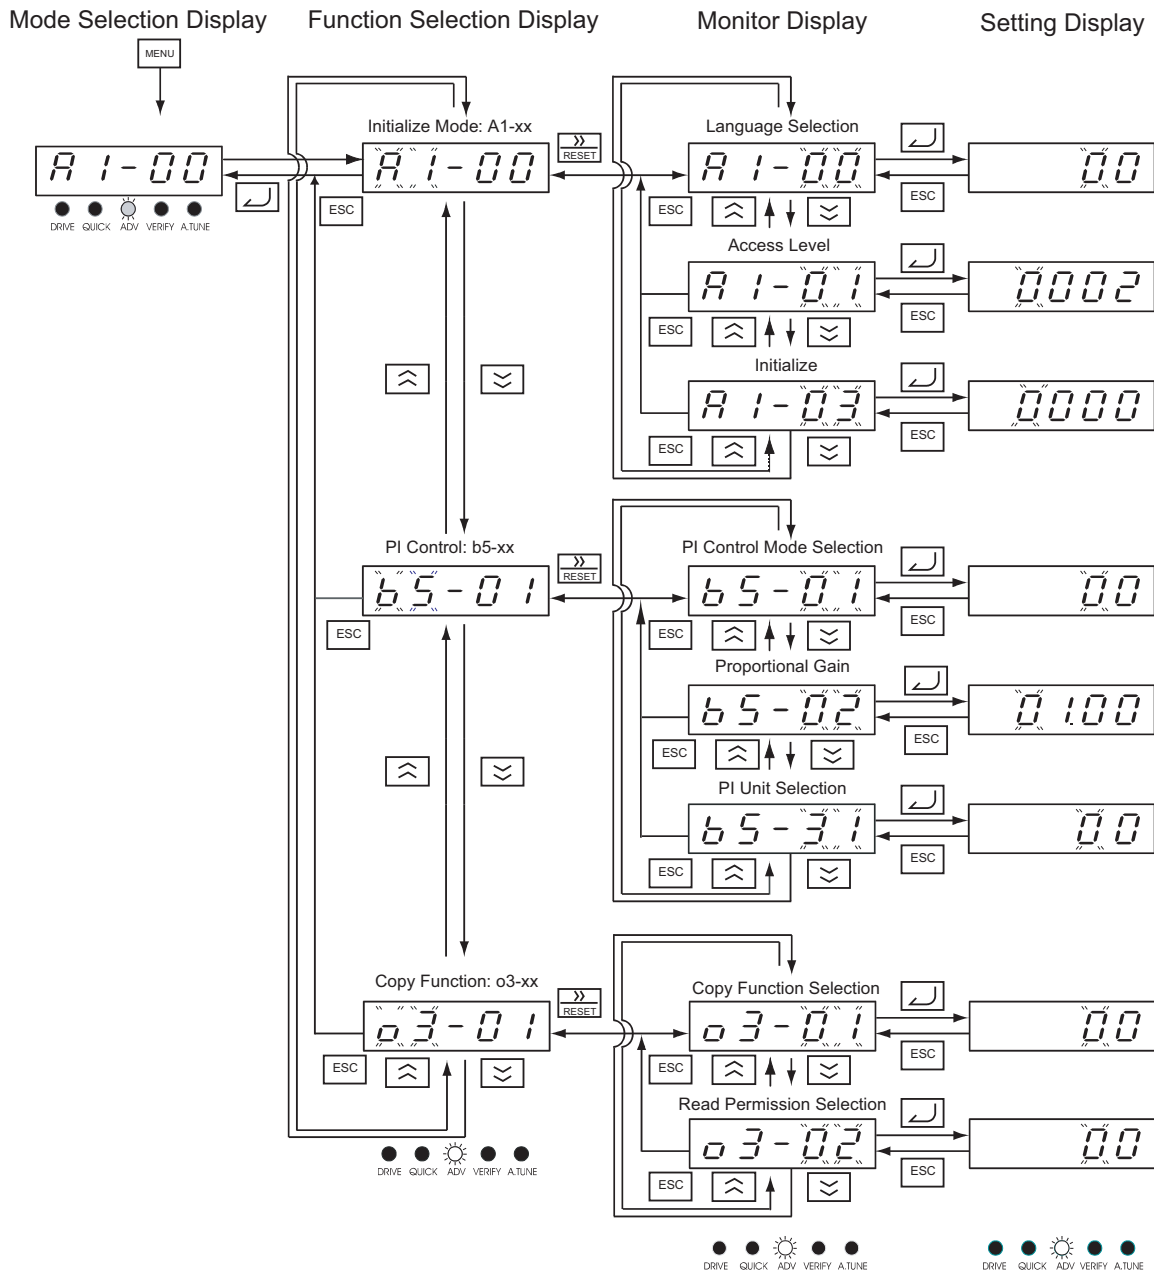

Fig 3.10 Operations in Advanced Programming Mode with LED Digital Operator
*Fig 3.10* shows example operations in Advanced Programming Mode with the LED Digital Operator.